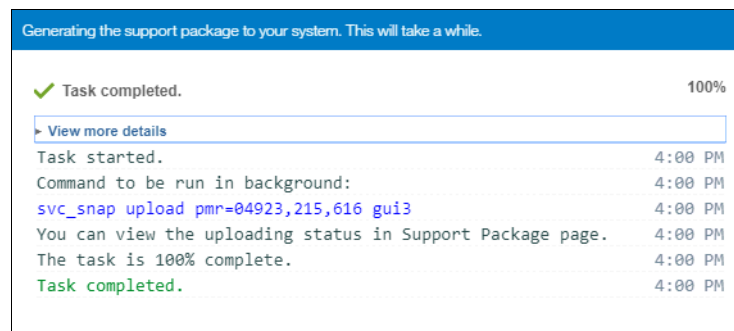

Figure 7-75 Task detail window
- The procedure to generate the snap on a FS9100 system, including the most recent statesave from each node canister, starts. This process might take a few minutes (Figure 7-75).